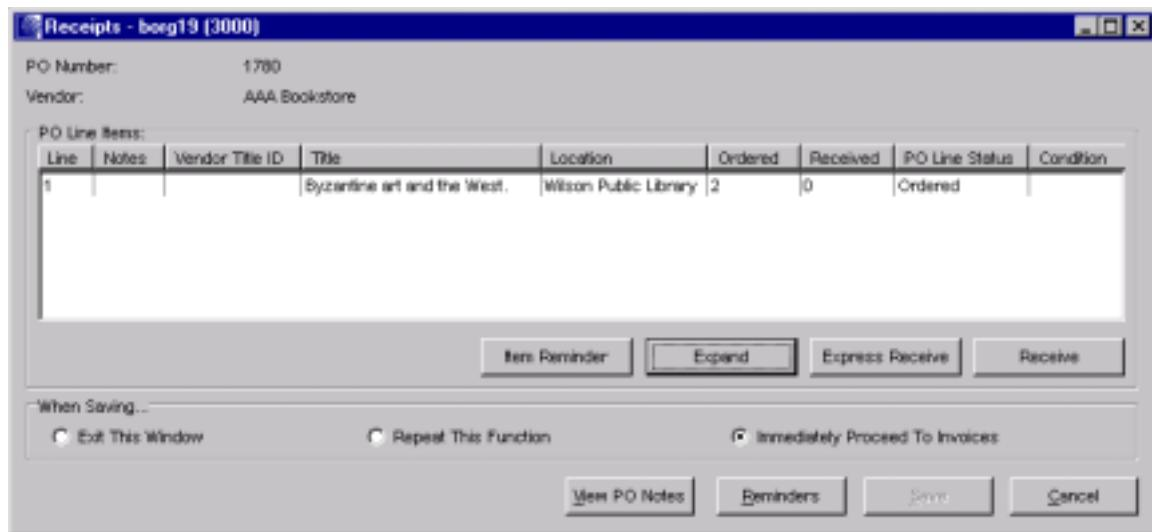

Figure 6-4. Receipts Window
1. Display the Receipts window for the desired purchase order (*Figure 6-4*).